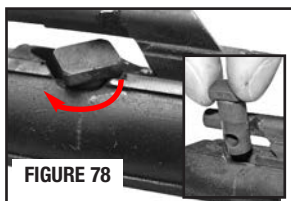

FIGURE 78
- Give the bolt cam pin a 1/4 turn and lift it out (FIGURE 78).